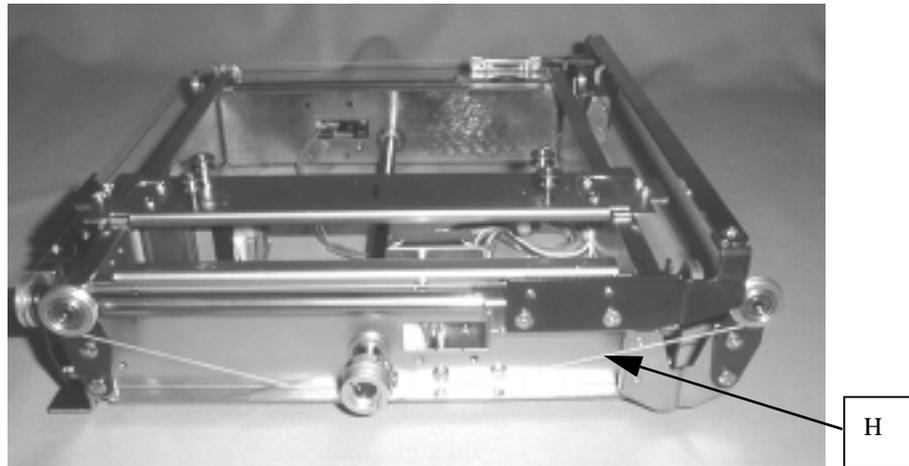

FIGURE 16-9
14. Wind the wire (H) onto the opposite pulley (F) clockwise by six and half turns as shown in Fig.16-9 under the winding condition of the wire onto pulley (F*) by six and half turns, apply the wire to the wire pulleys (E) in the order of the left and right side, mount the ball(R) to the cut (P), and eliminate the looseness of the wire by wire pulley (E).